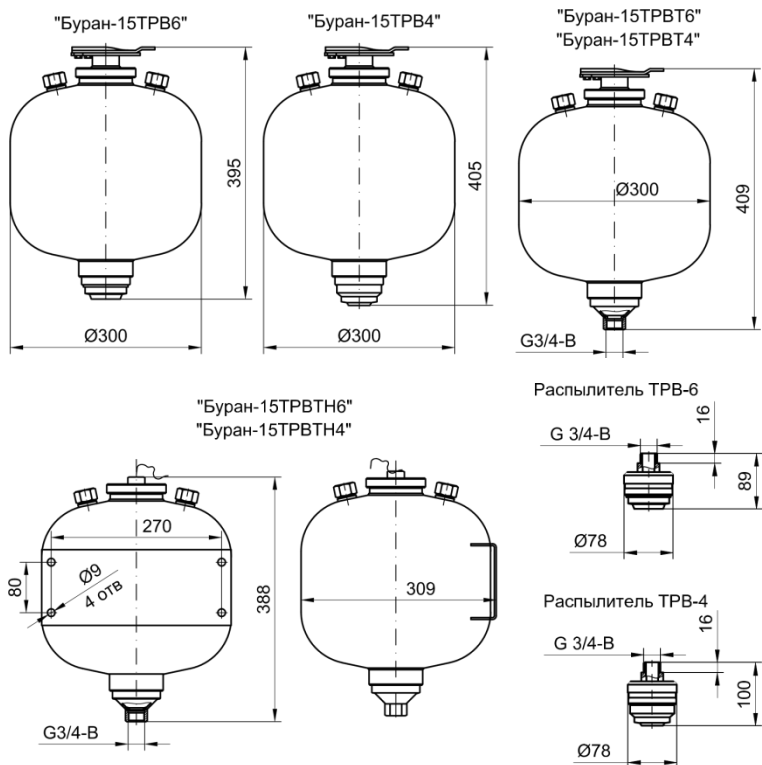

Fig.1 Dimensions of modules modifications "Buran-15TRV".
4. Dimensions of module, mm	Fig.1
Module is installed inside the actual protected zone (premises) and mounted onto a horizontal structure. The mounting fixtures shall withstand a static load in vertical direction of not less than 140kg. Dimensions of the mounting fixtures are shown in Fig.1.
Module is installed inside the actual protected zone (premises) and mounted onto a wall or a vertical structure. The mounting fixtures shall withstand a static load in vertical direction of not less than 140kg. Dimensions of the mounting fixtures are shown in Fig.1.